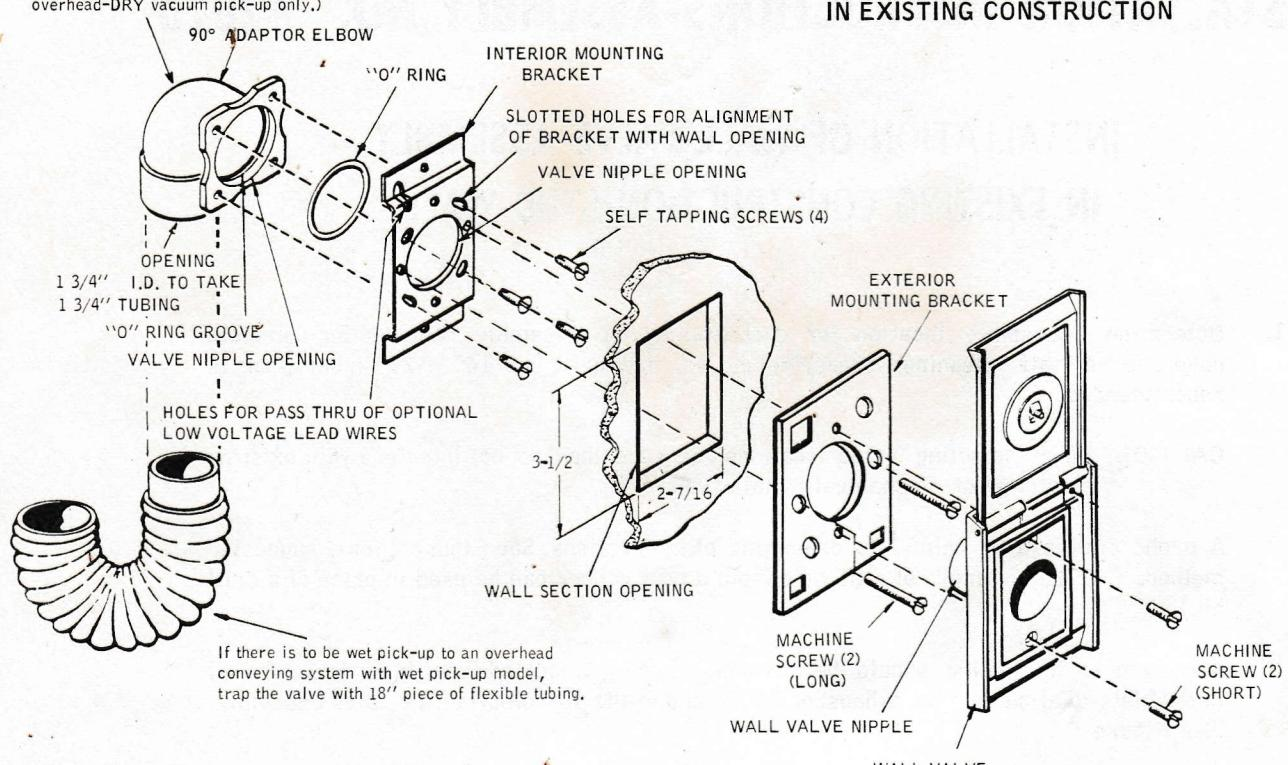

FIGURE 1
6. To assemble "O" ring and interior mounting bracket (long tab at the top), place the intake end of the 90° elbow in the recessed side of the bracket and secure with the four self-tapping screws. (NOTE: Slotted holes will permit adjustment to gain proper alignment between mounting bracket and elbow.) If low voltage system is used, place wires through the opening in interior mounting bracket. (See Figure 1 & 5)